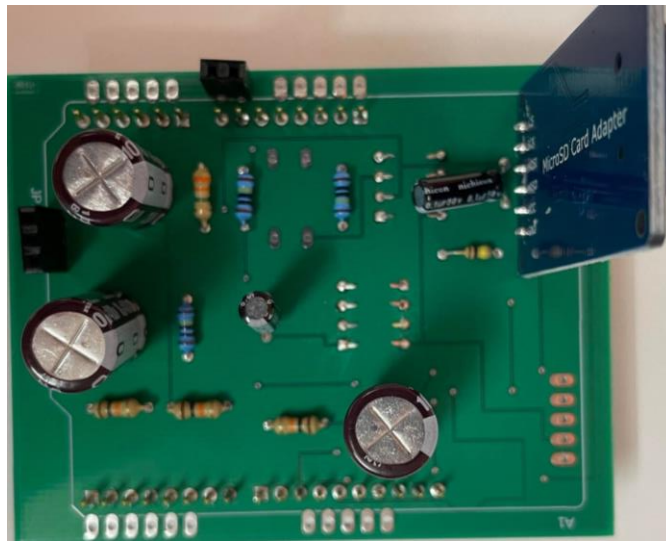

Fig. 9. The two-position header is for power supply, and the three-position header is for PIR sensor.
9. Solder female headers onto the back of the PCB as shown in Fig. 9.